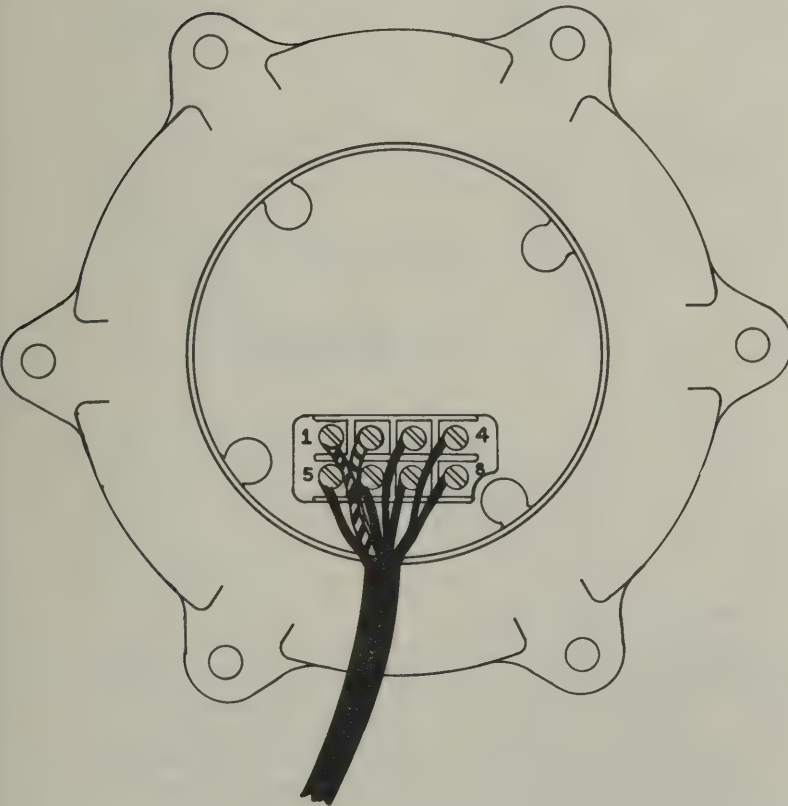

FIG. 4: ROTATOR WIRING
- C. With the control unit and the rotator on the work table, connect the cable between the rotator and control unit using the full length of cable that will be used in the installation. **IT IS IMPORTANT THAT #1 TERMINAL ON THE ROTATOR IS CONNECTED TO THE #1 TERMINAL ON THE CONTROL UNIT AND SO ON. NOTE:** That the specifications call for **HEAVIER** gauge wire in two locations. **LEADS #1 and #2** must be **HEAVIER GAUGE** and less total lead resistance (See specifications Page 11). Wire the control to the rotator as shown in figures 4 and 5.
- D. With the rotator sitting in the upright position and connected to the control unit, by the eight (8) wire cable, plug the control unit power cord into a 120 VAC 50/60 Hz wall socket.